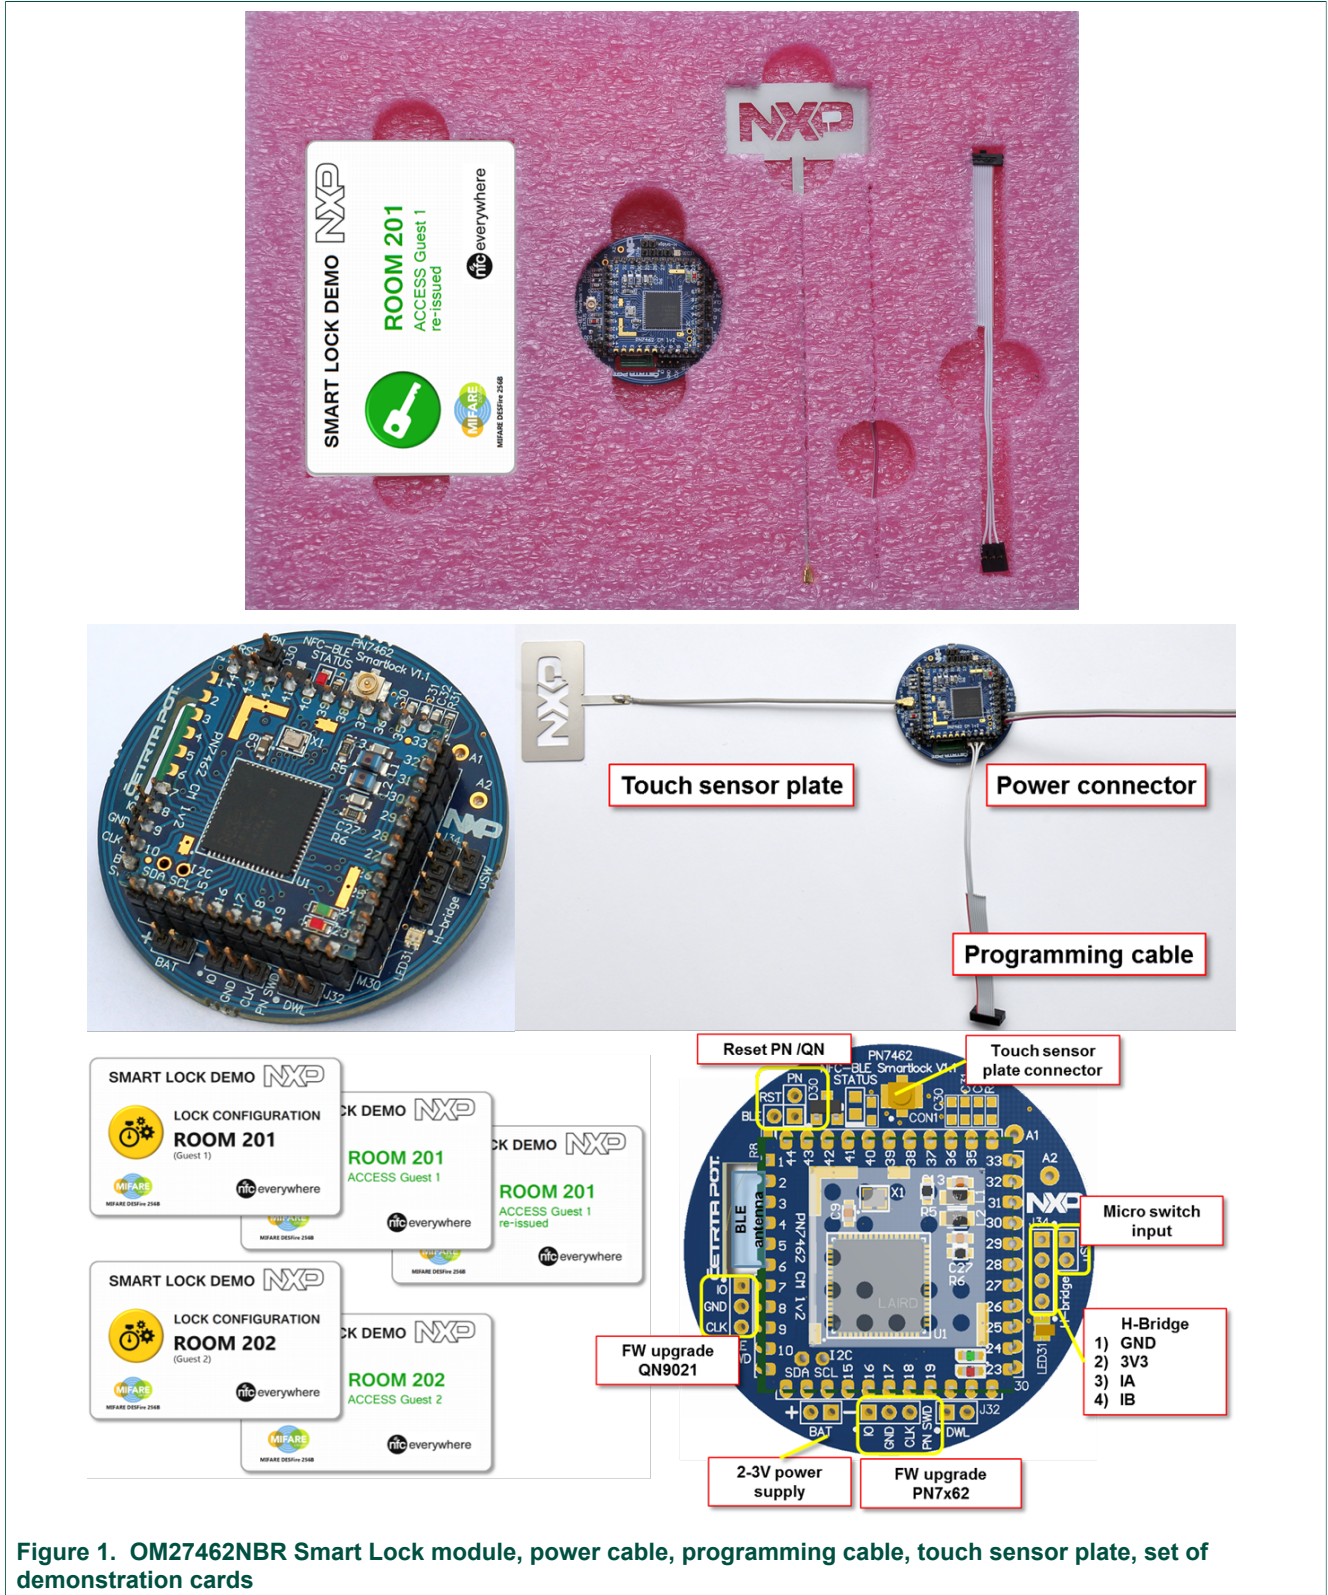

Figure 1. OM27462NBR Smart Lock module, power cable, programming cable, touch sensor plate, set of demonstration cards
1. Connect the Touch sensor plate as shown in fig. 1.
2. Connect a DC power source (2 V to 3.3 V) to the pins labeled “BAT” (see Fig. 1)